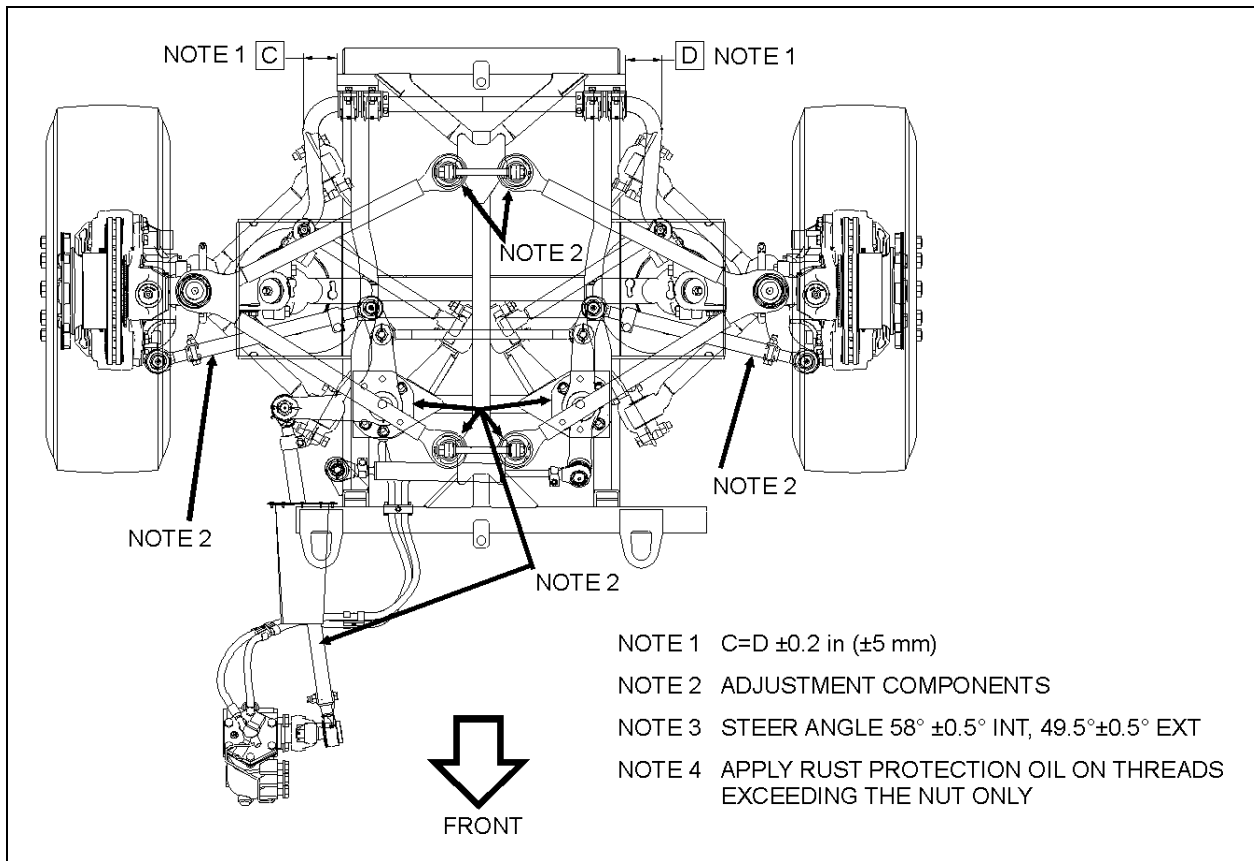

FIGURE 24: NOTE 2 INDICATES WHERE ADJUSTMENT MAY BE PERFORMED AT IFS ALIGNMENT
4. Check that the angular relationship of the pitman arm to the steering gear is as shown in figure 24.